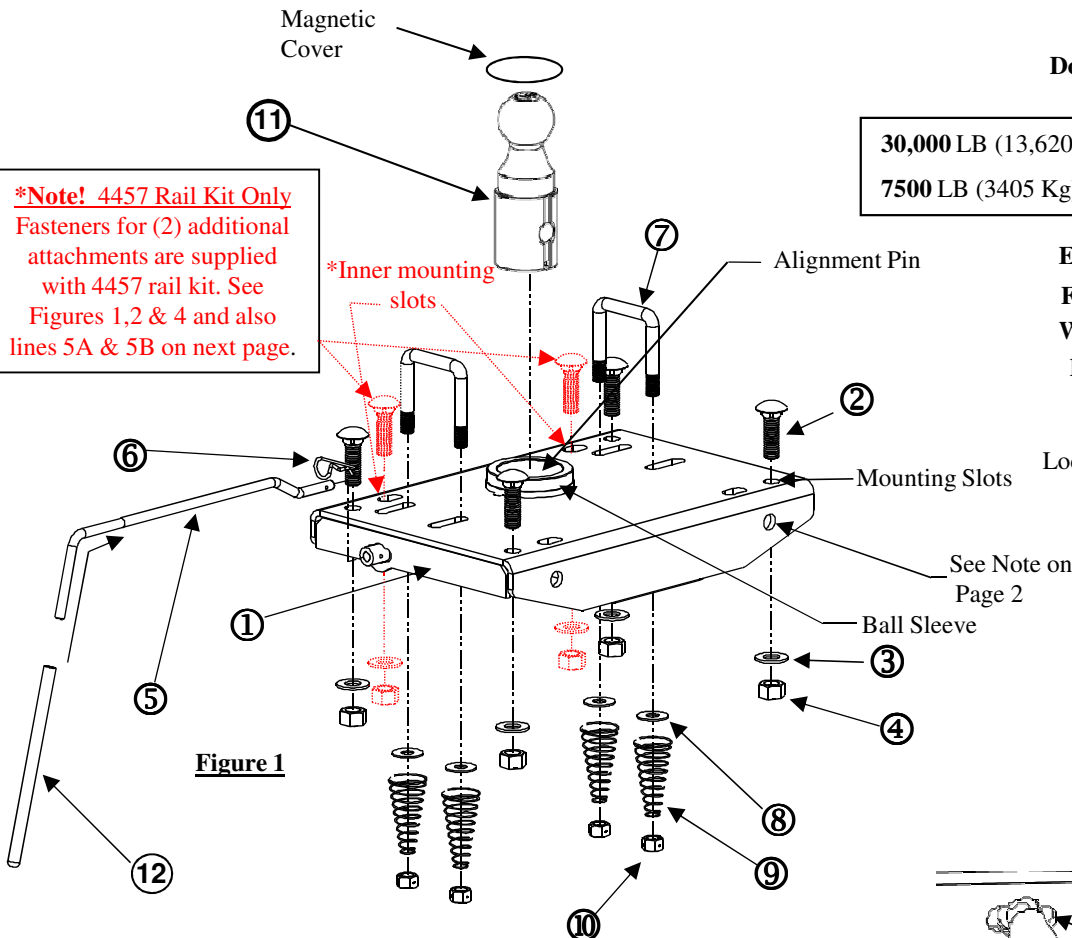

Figure 1
9. From under the truck, install the 1/2" flat washers, U-Bolt springs, and 1/2" lock nuts (SEE FIGURE 1 AND 2). Tighten nuts so a minimum of 3 threads are showing past the nuts.